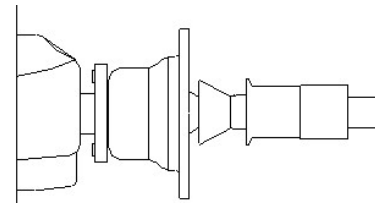

Figure 47 - 2 cones & clamping nut only
- 3b. For Model 9300P, place 2 cones followed by the clamping nut (no retainer) onto the shaft. Lift the pedal to clamp. See Figure 47.